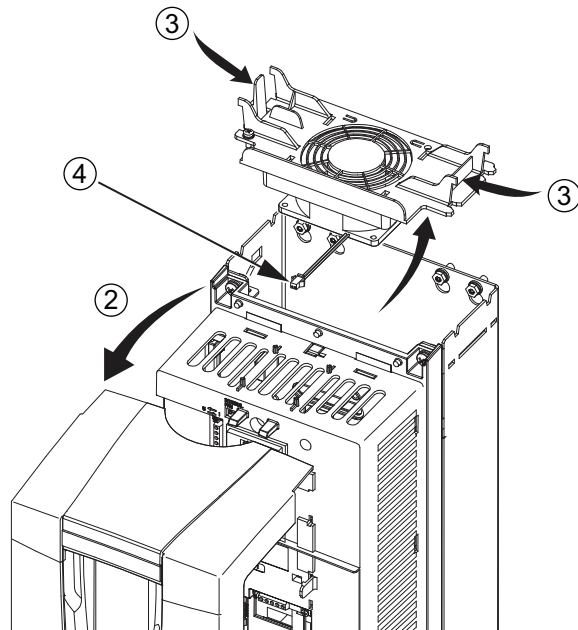

Fig. 48 — ACH550 Fan Replacement
3. Press the lever located on the left side of the fan mount and rotate the fan up and out (see Fig. 48).
4. Disconnect the fan cable (see Fig. 48).